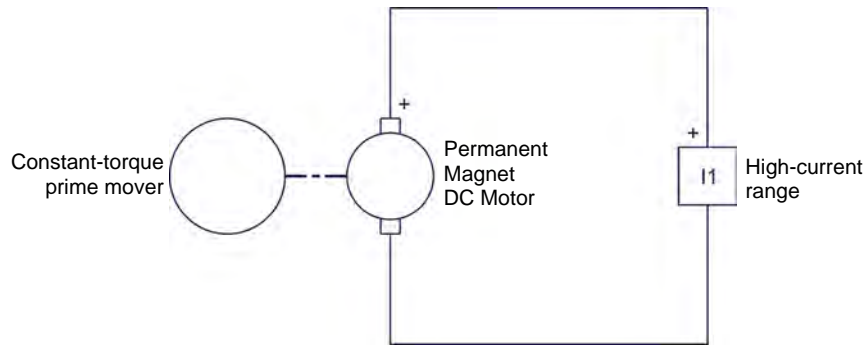

Figure 32. Setup used to plot the torque-versus-current characteristic of a permanent magnet dc motor operating as a generator.
- 23.** Connect the equipment as shown in Figure 32. Use the high-current (40 A) terminal of current input *I1* on the *Data Acquisition and Control Interface*.